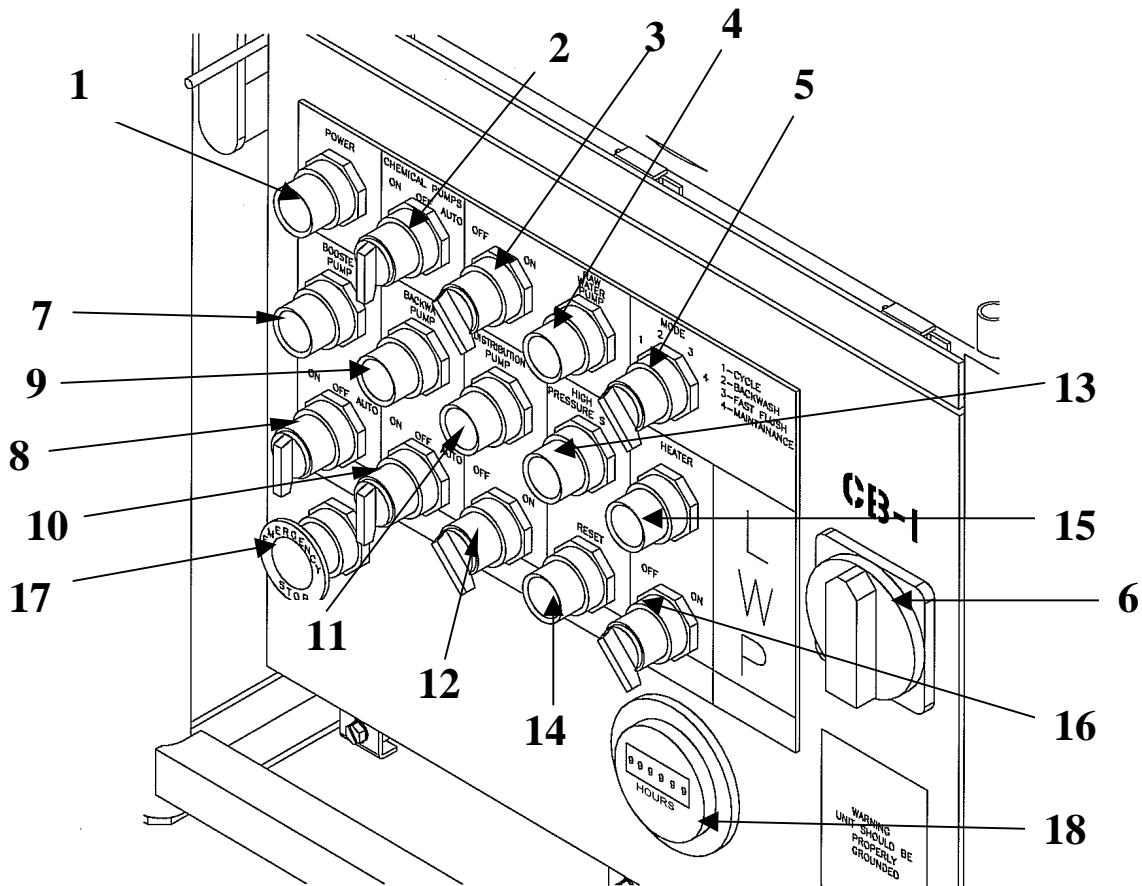

Figure 21. Control Module.
7. Place the BOOSTER PUMP switch (8) and BACKWASH PUMP selector switch (10) in the AUTO position on the control module. Green pilot light (7) will light up. Green pilot light (9) will only light up during backwash cycle. See Figure 21 for location of switches.
- c. Place BACKWASH PUMP selector switch (10) in the ON position on the control module.